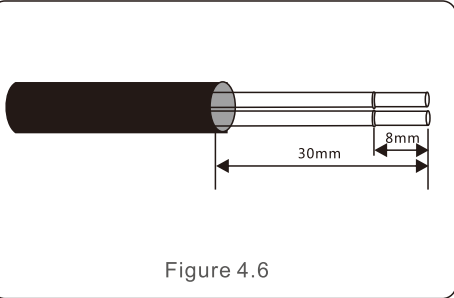

Figure 4.6
(in Figure 4.6).
d. Pull down the terminal block on user interface board(See Figure 4.6).
e. Firstly insert cable into terminal board, then tighten the screws (dotted area) clockwise with slotted screwdriver; if user need to pull out cable, screws rotates anticlockwise with slotted screwdriver(See Figure 4.6).